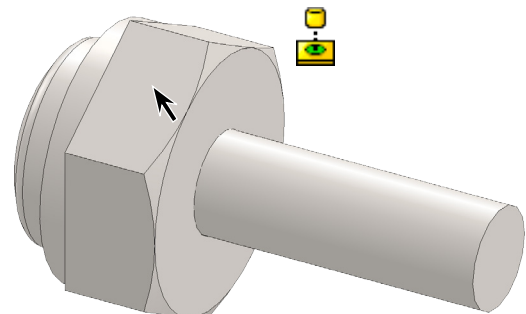

Fig. 17
Step 8. Position cursor **near shaft of machine screw at Washer**, **Fig. 17**. When Nut snaps into screw shaft, against Washer (not against screw head) and cursor changes to indicate a Concentric and Coincident mate , click to release Nut.